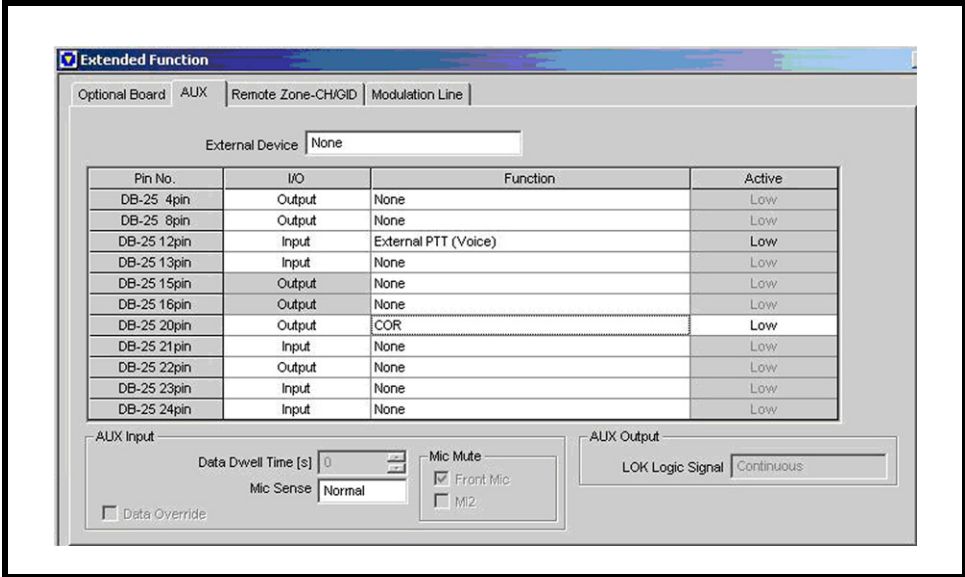

FIGURE 11. TK-x180 AUX Setup
**NOTE:** For the TK-x180, the AUX programming window is different. The same interface cable is used for both the TK-x150 and TK-x180 radios. If COR is used, IP-223 Jumper 8 (Line 1) or Jumper 30 (Line 2) needs to be placed in a neutral position for the Aux port pin 20 on the TK-x180 to function properly as COR. See Figure 11.